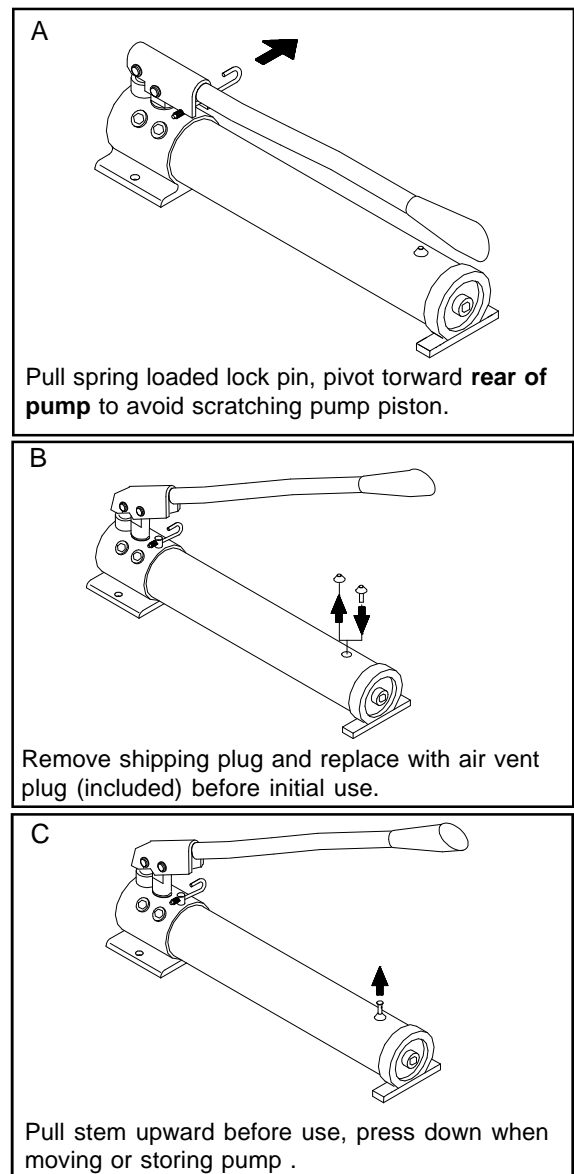

Figure 2 - Before Use Illustration
1. Before using this product, read the operator's manual completely and familiarize yourself thoroughly with the product, its components and recognize the hazards associated with its use. Prepare the pump for use (see Figure 2).